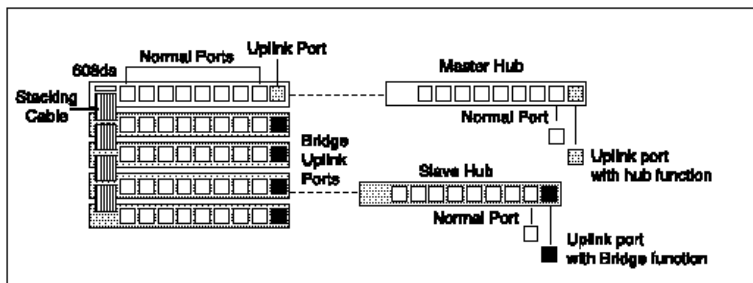

Figure 3-2 Master and Slave hubs in stacking ALH-608ds.
- The hub will be divided into Master and Slave hubs when they are stacked together. The upper most hub is the Master hub, and other hubs are Slave hubs. The Master hub continues to use the built-in switch but the switch in the Slave hubs will be disabled. The Slave hubs will provide a uplink port with bridge functional(so called Bridge Uplink Port) that utilizes the first connection port as well, as in *Figure 3-2*.